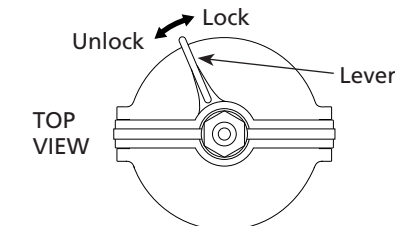

Figure 1
1. Remove canister from yoke/lid assembly (See Figure 1).
lever toward center until firm (See Figure 1). Do not force lever.